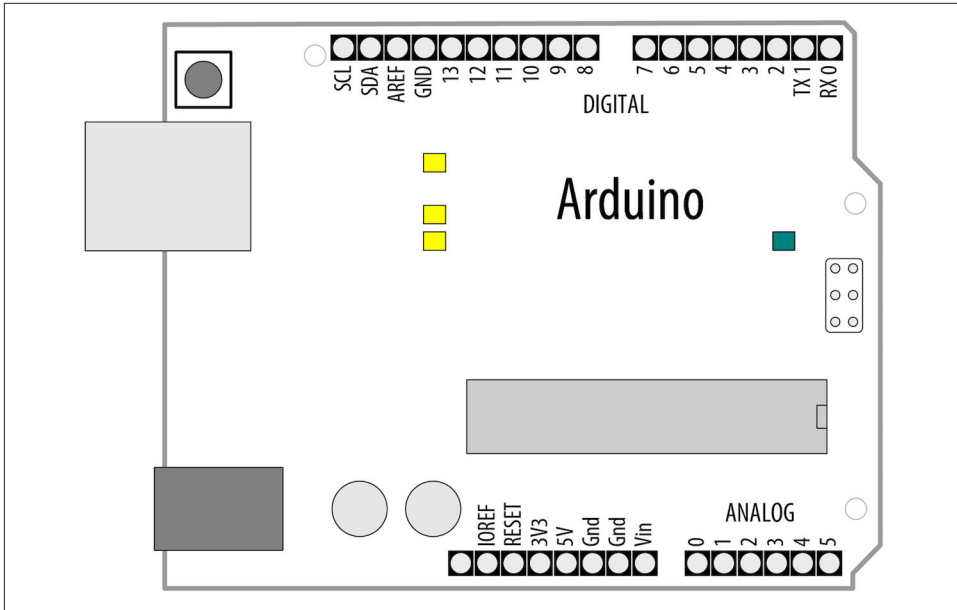

Figure 5-1. Digital and analog pins on the Arduino Uno board
**Figure 5-1** shows the arrangement of pins on the Arduino Uno. This pin arrangement is used by many Arduino-compatible boards, including the Adafruit Metro line and SparkFun. See this list of the official boards, which links to connection information for each. If your board is not on that list, check your board supplier's website for connection information.
On a board with the Uno-style pin layout (including the Arduino Leonardo, several of the Adafruit Metro boards, and SparkFun RedBoard), there are 14 digital pins (numbered 0 to 13) as shown at the top of **Figure 5-1**. On the Uno and 100% compatible boards (typically boards based on the ATmega328), pins 0 and 1 (marked RX and TX) are used for the USB serial connection and should be avoided for other uses. See Chapter 4 for more details on serial connections.
called `analogRead` to get a value proportional to the voltage it sees on one of its analog pins. The value will be 0 if there are 0 volts on the pin and 1,023 for 5 volts (or 3.3 volts on a 3.3-volt board). The value in between will be proportional to the voltage on the pin, so 2.5 volts (half of 5 volts) will result in a value of roughly 511 (half of 1,023). You can see the six analog input pins (marked 0 to 5) at the bottom of Figure 5-1 (these pins can also be used as digital pins if they are not needed for analog). Some of the analog recipes use a *potentiometer* (*pot* for short, also called a *variable resistor*) to vary the voltage on a pin. When choosing a potentiometer, a value of 10K is the best option for connecting to analog pins.